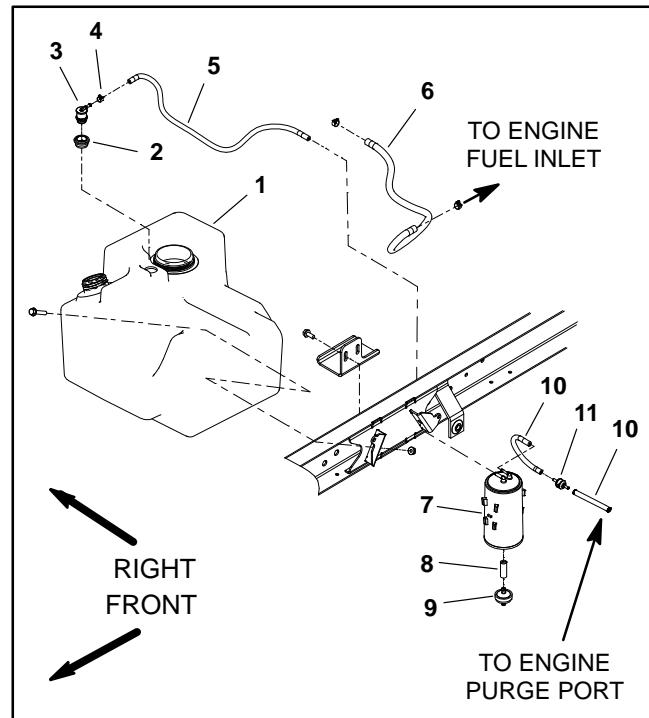

Figure 12
- B. If vacuum check valve (item 11 in Fig. 12) is removed, note direction of arrow on valve body for assembly purposes.
- A. If vacuum check valve (item 11 in Fig. 12) was removed, make sure that arrow on valve body points toward engine.